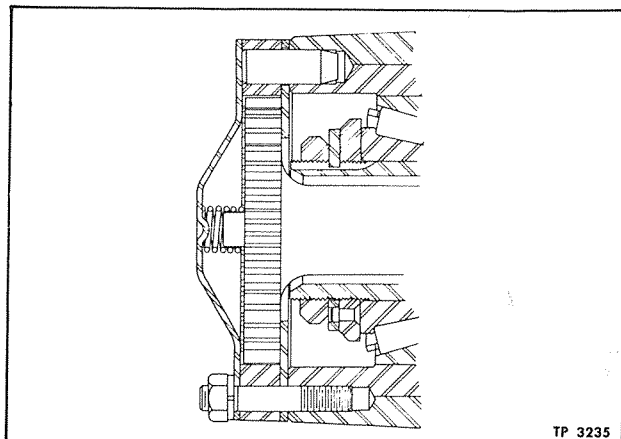

Figure 9—Axle Shaft Flange Installation at Rear Hub
1. Before installing axle shafts, (42) and (47) be sure that hubs have been removed, cleaned, inspected, bearings lubricated, replaced and adjusted as later directed in Hubs and Bearings (Sec. 19A, of this manual).
2. Install axle shaft (fig. 9) as previously directed under "Axle Shaft Installation" in this section.